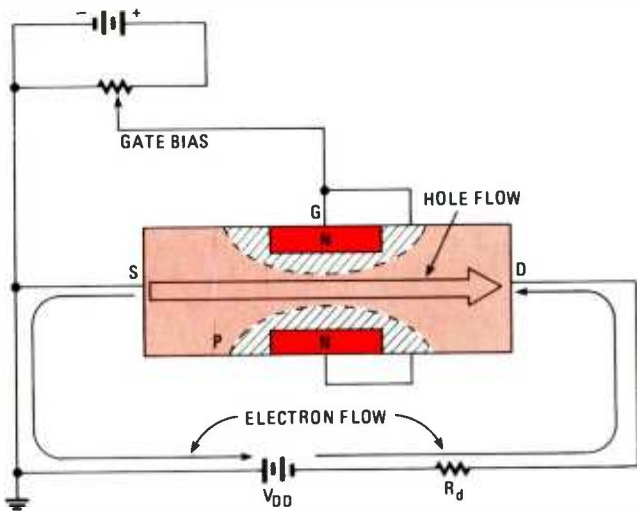

Fig. 26—A P-channel JFET looks as though it's an N-channel with everything reversed.
52. (gate) It is also possible to make a P-channel FET. A P-type bar of semiconductor material is used and an N-type gate is diffused into it, as shown in Fig. 26. The supply voltage is connected as shown: in that case the drain is negative with respect to the source. Current flow through the P-channel is holes with the direction indicated. In the external circuit, current flow is by electrons. The gate junction is reverse-biased by making it positive with respect to the source (as shown), creating the depletion region which removes carriers (holes), thereby increasing channel resistance.